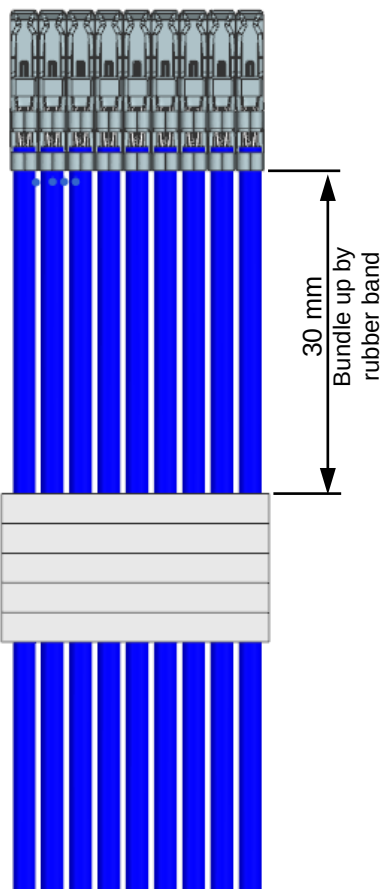

Fig. 5-1
- ※When bundling wires (**Fig.5-1**), please be careful not to apply excessive force to terminals.